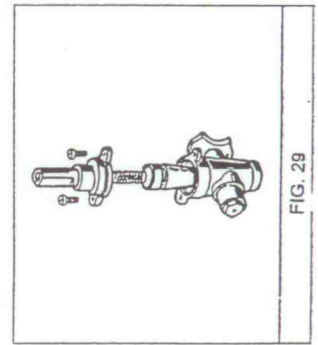

FIG. 29
- Control valve greasing (refer figures 29 - 30)**